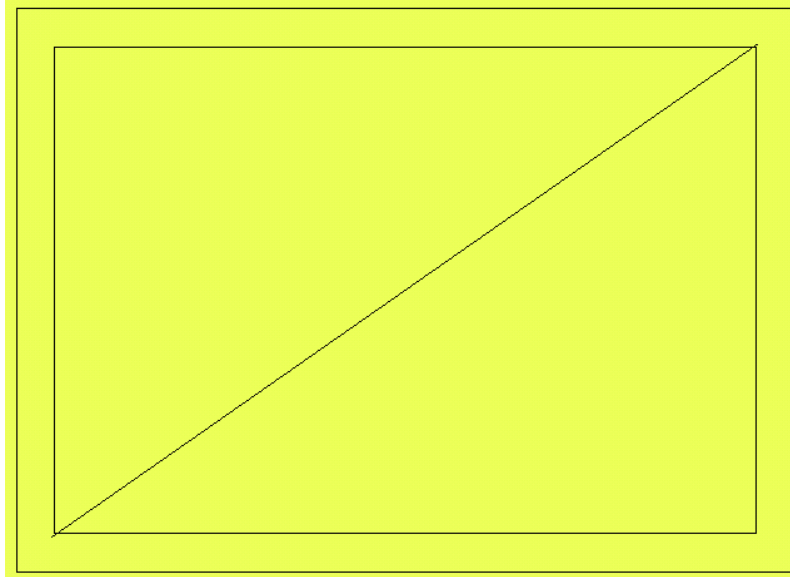

Figure 4-93
10. Type **1383.33,883.33 (410,287)** and click <Enter>. Select View/Redraw to refresh the image. The smaller rectangle represents the inner boundary of the fill and it will be the border line for the template. See Figure 4-93.